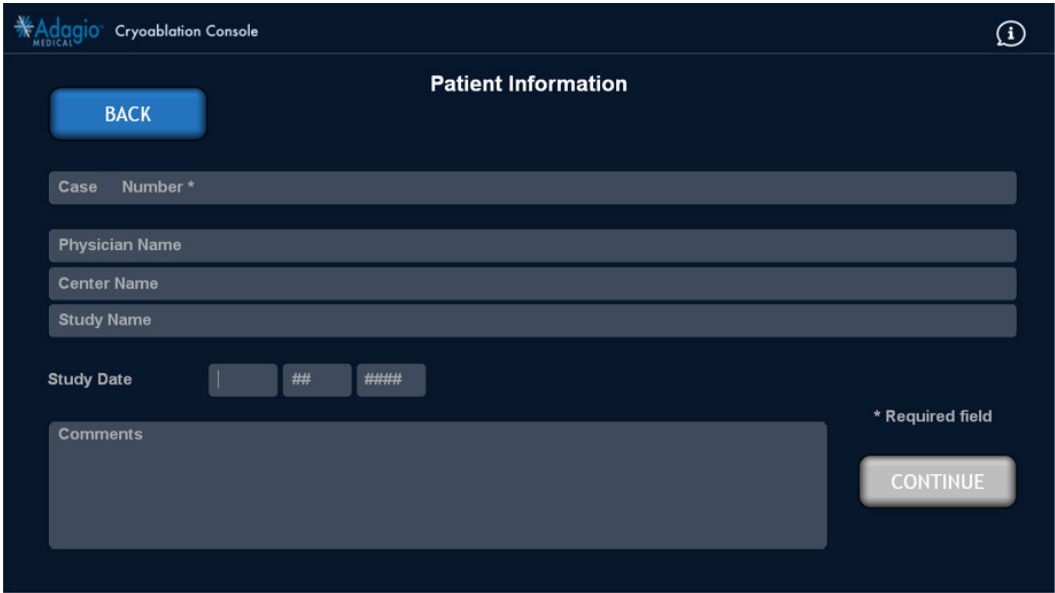

Figure 82 – Patient Information Screen Image
- 1. From the Main Menu Screen (Figure 66), click on the “NEW PATIENT” button to go to Patient Information screen (Figure 82).